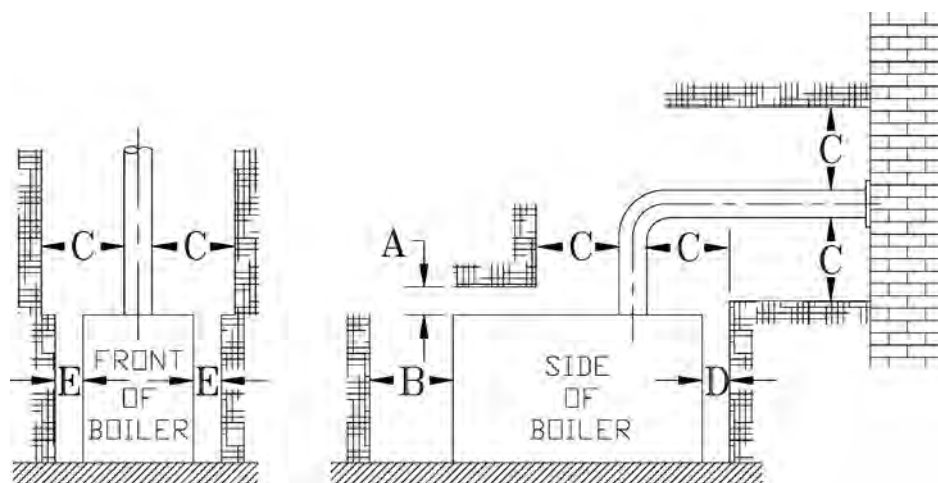

Figure 2: Minimum Installation Clearances To Combustible Materials (Inches)
4. For minimum clearances to combustible materials. See Figure 2.